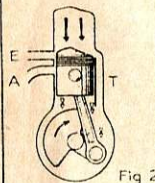

Fig. 2
- B. A spark occurs at the sparking plug, and the resultant expansion of gases forces the piston downwards providing the power to drive the Autocycle, see Fig. 2.